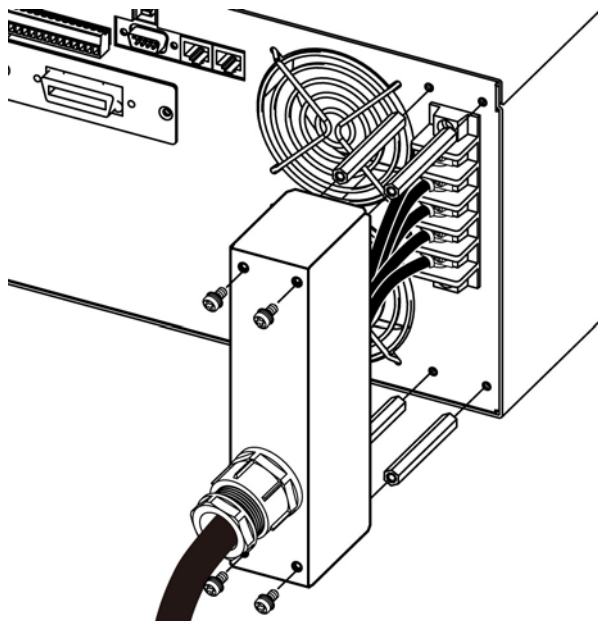

Figure 12 Assembling 62050P Input Terminal Safety Cover – 3
- c. Install the 4 copper pillars on the rear panel and secure the power terminal on the input terminal socket with Phillips screws as well as the safety cover as Figure 12 shows to prevent from electric shock.